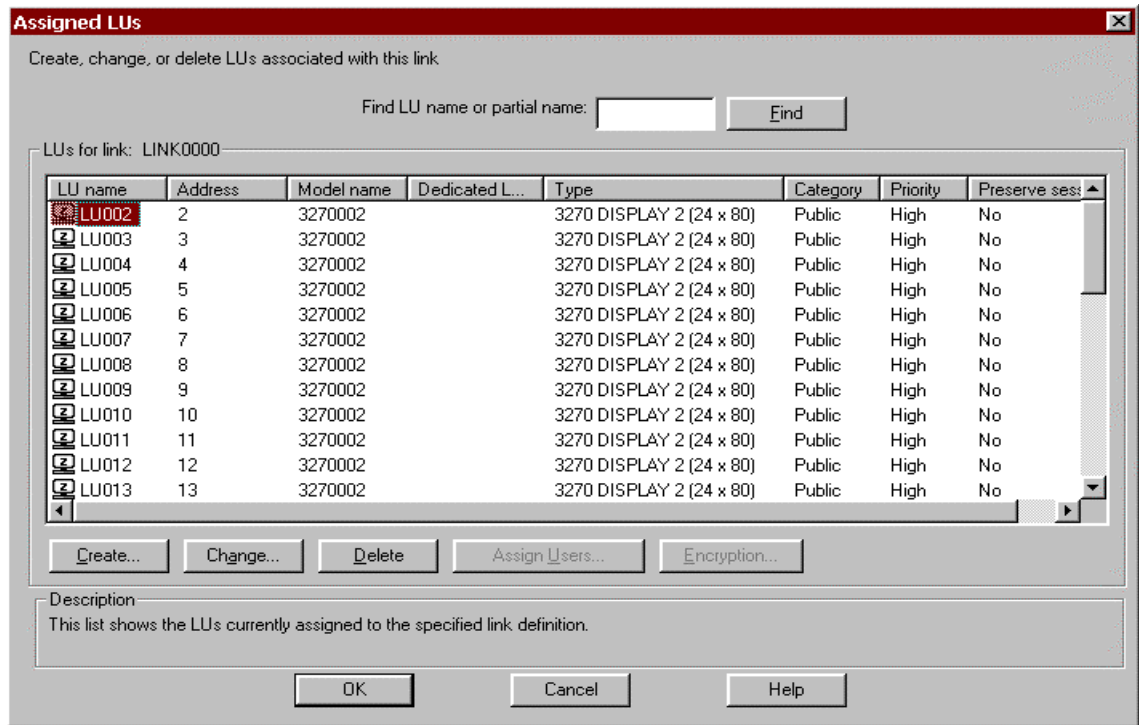

Figure 11-21. Assigned LUs
9. Click **OK** to create the LUs. The *Assigned LUs* screen will display (Figure 11-21).